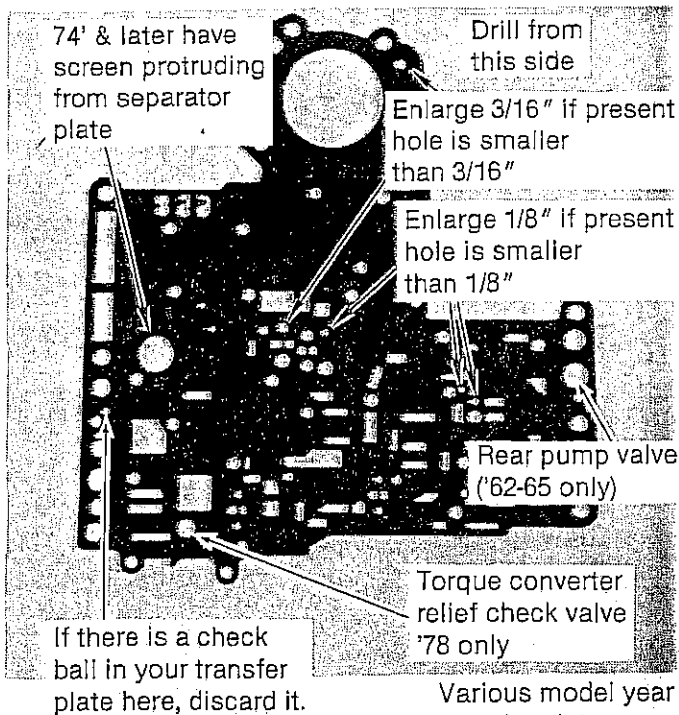

FIGURE 40
**STEP 13.** Place transfer plate and separator plate assembly in front of you. The thin metal separator plate will be held with four to six short screws. **Note how your stiffener plate is positioned.** Remove the retaining screws and lift the separator plate off. ('62-'65 models will have a check valve and spring under the plate in the position shown. '78 models have a torque converter relief check valve and spring in position shown. Do not lose.) '74 and later models have a screen type filter in the separator plate. Remove and clean. Refer to Fig. 40